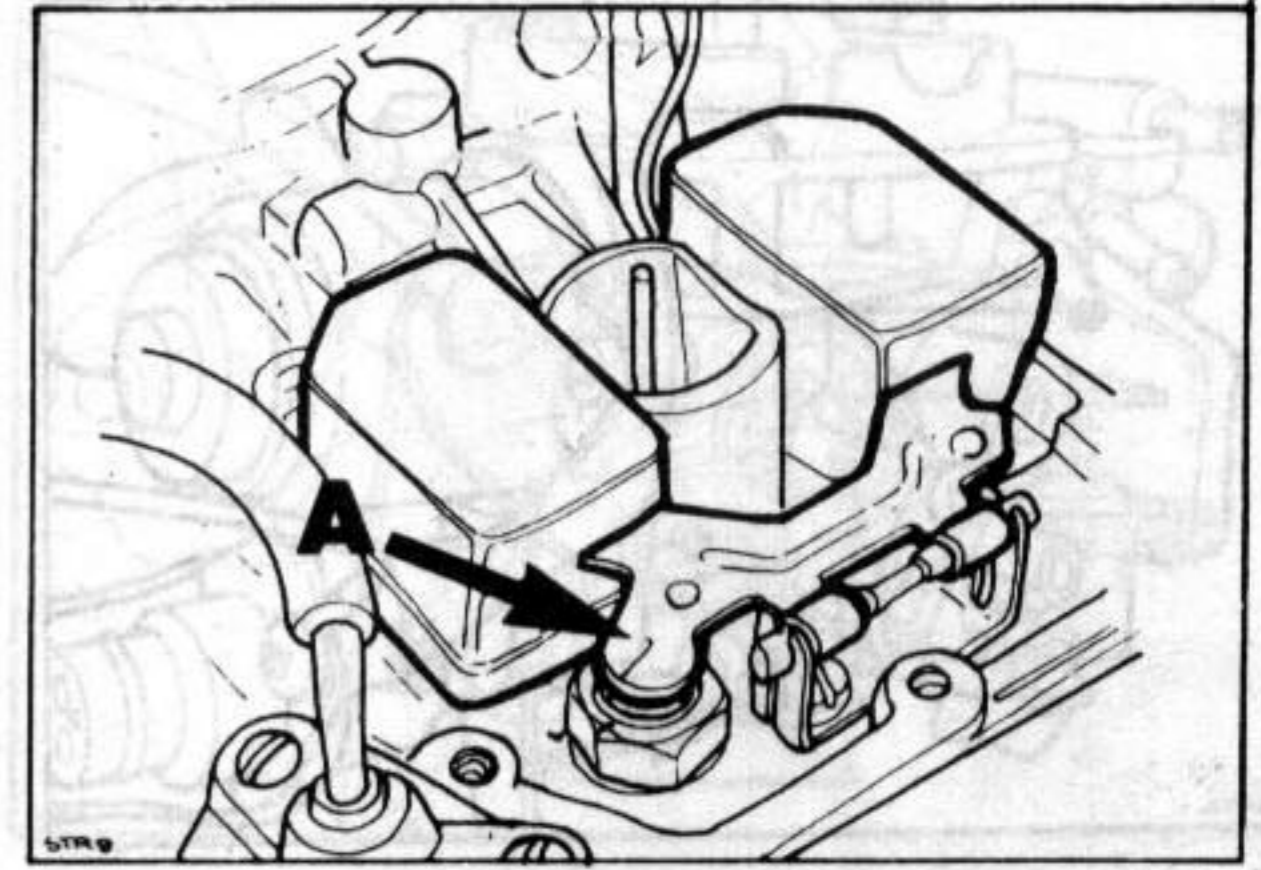

Fig. 9 Float level adjustment
- c) To adjust, remove float and bend tab (A, Fig. 9) on float arm which rests against needle valve. Ensure tab rests squarely on needle valve and both floats are at same level.